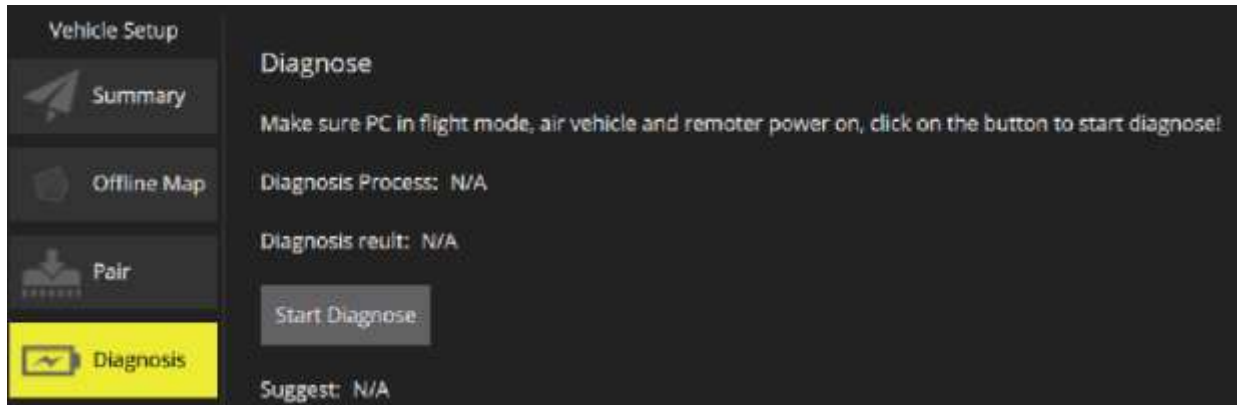

Figure 3-29
Step 1 Select "Aircraft Settings > Diagnosis" to enter diagnosis interface, as shown in Figure 3-29.